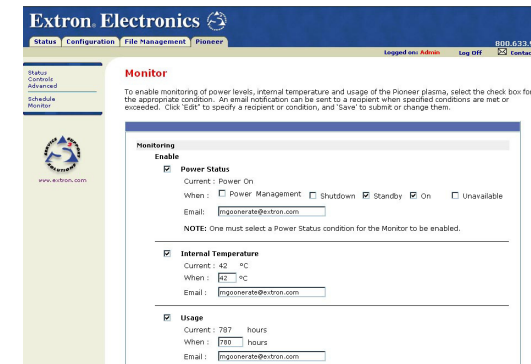

Figure 4-14— Pioneer Monitor screen
1. Click Monitor on the menu on the left side of the window. The Monitor screen (figure 4-14) is displayed.